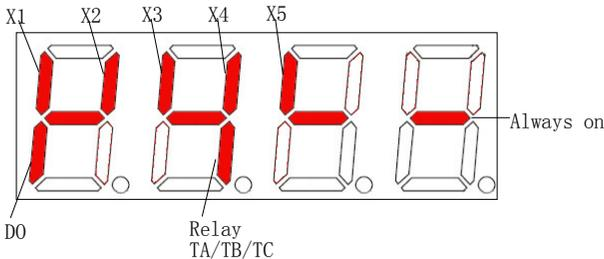

Fig. 5-12-1 Terminal status diagram of S2R4GB~3004GB/35R5PB
- ◆ Model of 3004GB/35R5PB and the below models: The terminal information includes status of terminal X1~X5, D0 and relay output terminal TA. The status of terminals is indicated by "on" or "off" of the segment. The segment will turn on if the terminal is valid. The segment will turn off if the terminal is invalid. The central four segments are always on for the convenience of observation. As shown in Fig.5-12-1: